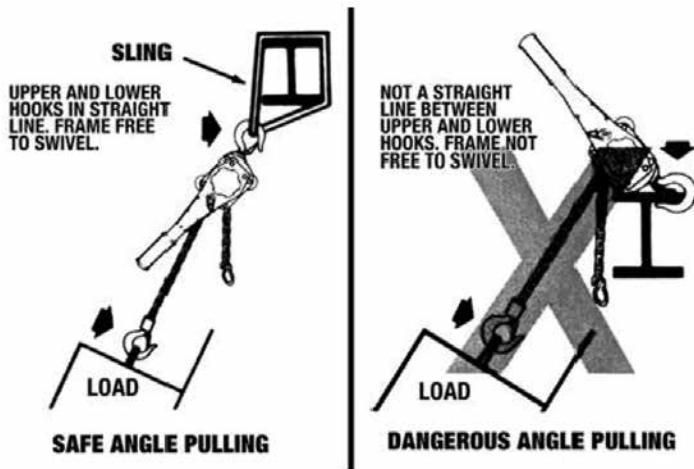

Figure 5: Pulling at an Angle
- Pull firmly on the stop grip until the brake locks from the force of the load (See Figure 5).
Rig the unit in a straight line hook to hook and ensure the frame swivels freely (See Figure 5).